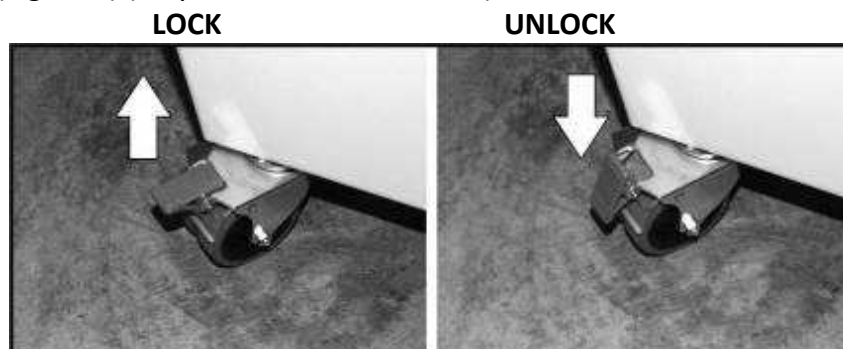

Figure 7
Ensure that there is enough space around the machine to operate comfortably and to correctly carry out any cleaning, adjustment and/or maintenance operations. Brake the wheels by lowering the dedicated levers (Figure 7) (only for versions with base)
- Before using the machine, ensure that all the wheels fitted with brakes are blocked (see Figure 7)